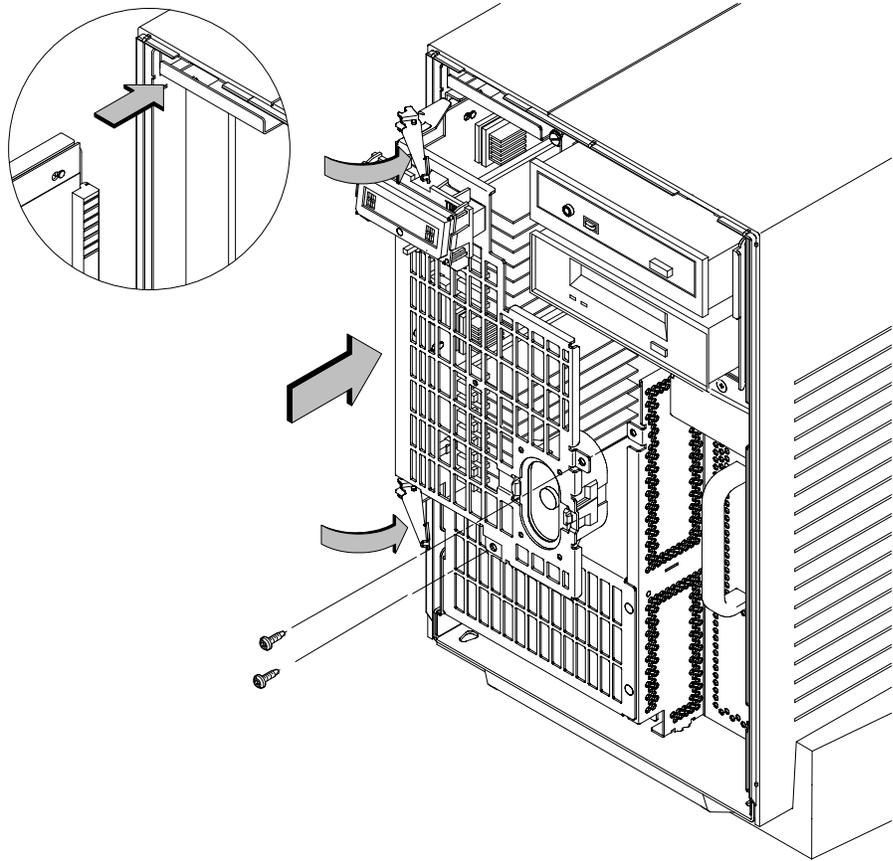

Figure B-25. Replacing the CPU Assembly
13. To replace the CPU Assembly in the system unit, first align the top of the CPU Assembly with the guide on the system unit. Refer to Figure B-25 and to the label on the back of the assembly. Be sure to support the CPU Assembly properly while replacing it.
Next, align the bottom of the CPU Assembly with the guide on the system unit. With the ejector latches in the open position, slide the CPU Assembly into the system unit as far as it will go. See Figure B-25.